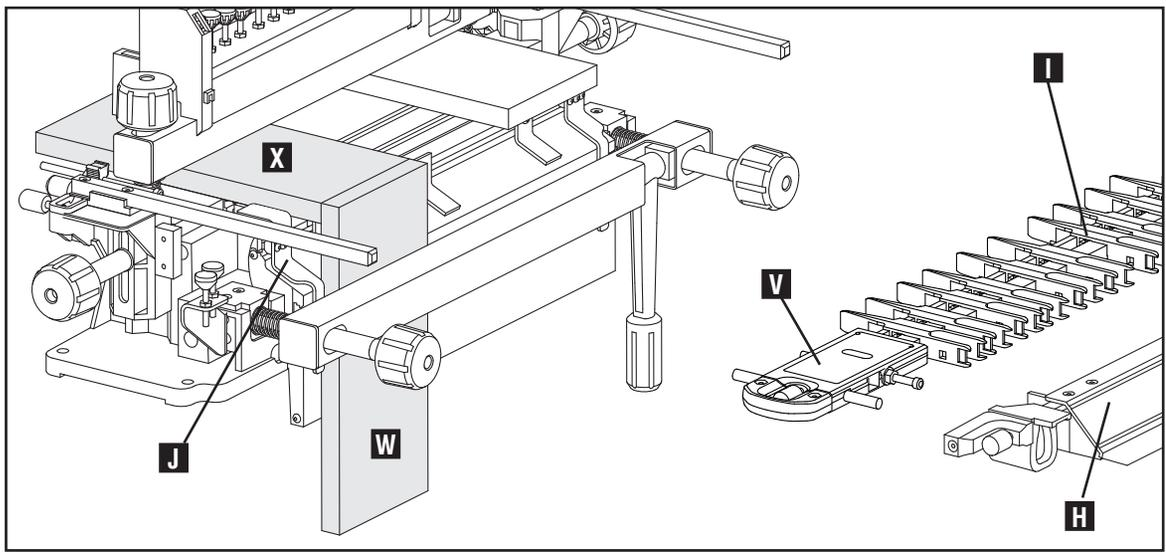

Fig. E11
1. Remove stabilizer bar (H) Fig. E11 and remove template (I).
2. Put horizontal scrap (X) into the jig.
3. Put the template back onto the jig so the yellow "B Tails" label (V) is located at the upper left side.
4. Slide vertical tailboard (drawer side) (W) in up against the lowered template (I) (shown out of the way for clarity). Be sure the tailboard is oriented with the "outside surface" facing the base. Slide a piece of horizontal scrap (X) into place behind the vertical piece to help reduce tearout.
5. Be sure vertical board (W) is lined up flush against the left edge guide (J).